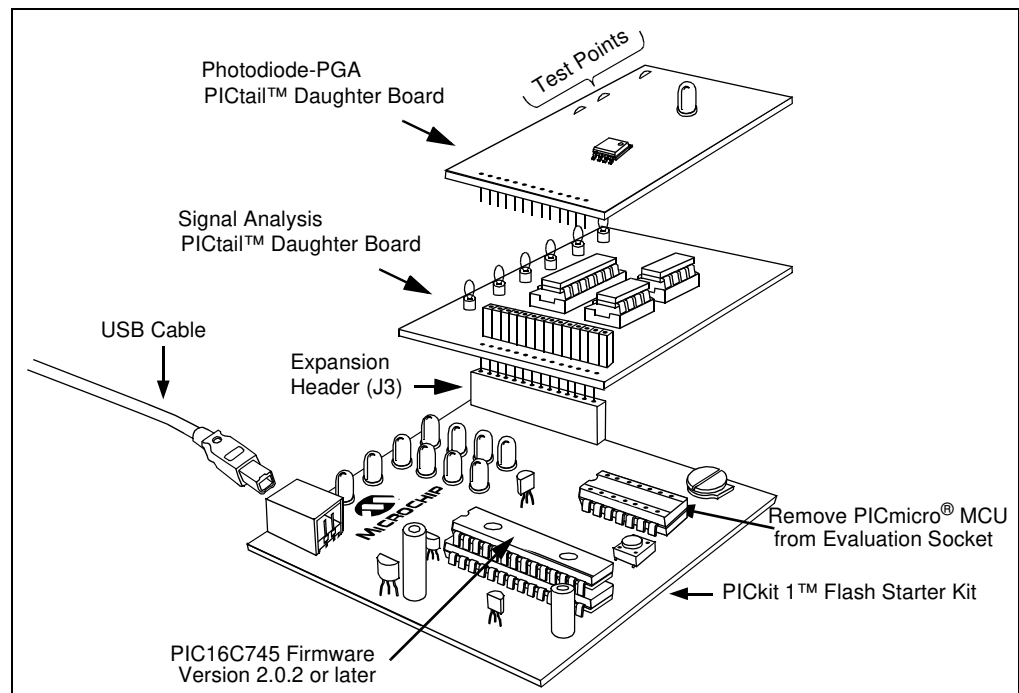

FIGURE 2-1: Board Connections.
The PICKit 1 Flash Starter Kit (DV164101) programs PICmicro® microcontrollers, using the PIC16C745's USB port to communicate with the PICKit 1 Signal Analysis PC Program. It connects to the Signal Analysis PICtail Daughter Board via a header (see Figure 2-1).
An exploded view of how the different boards connect is shown in Figure 2-1.
This board plugs into the PICKit 1 Flash Starter Kit's expansion header J3 (Figure 2-1), and must not cover the LED array. There should be no change in the status LEDs on the PICKit Flash Starter Kit board once it is plugged in.
1. Plug this board into, and directly above, the Signal Analysis PICtail Daughter Board (Figure 2-1). There should be no change in the status LEDs on the PICKit Flash Starter Kit board once it is plugged in.